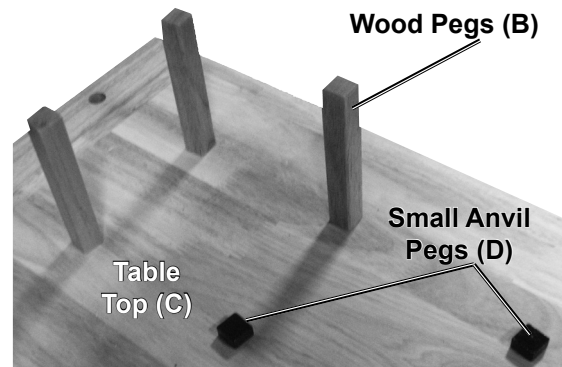

Figure 18
22. Once all Drawers are inserted, tap Wood Pegs (B) and Small Anvil Pegs (D) into desired holes on the Table Top. See Figure 18, below.